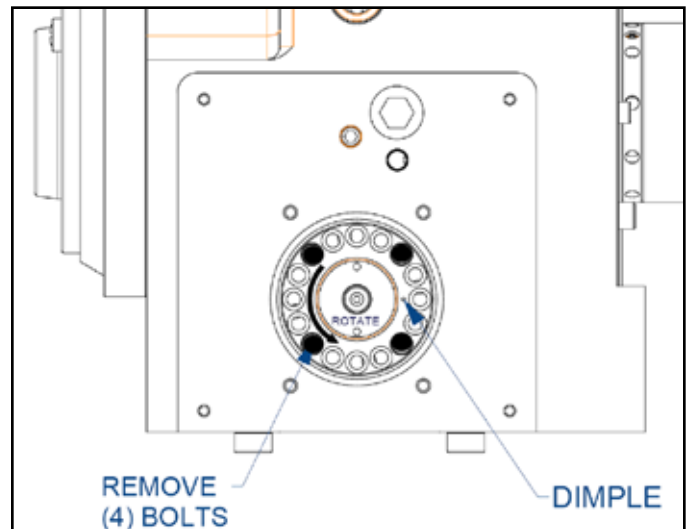

Figure 3
3. Remove the (4) four M6 bolts in the eccentric housing. (Figure 3).
5. Replace the (4) four M6 bolts in the eccentric and measure the backlash again.